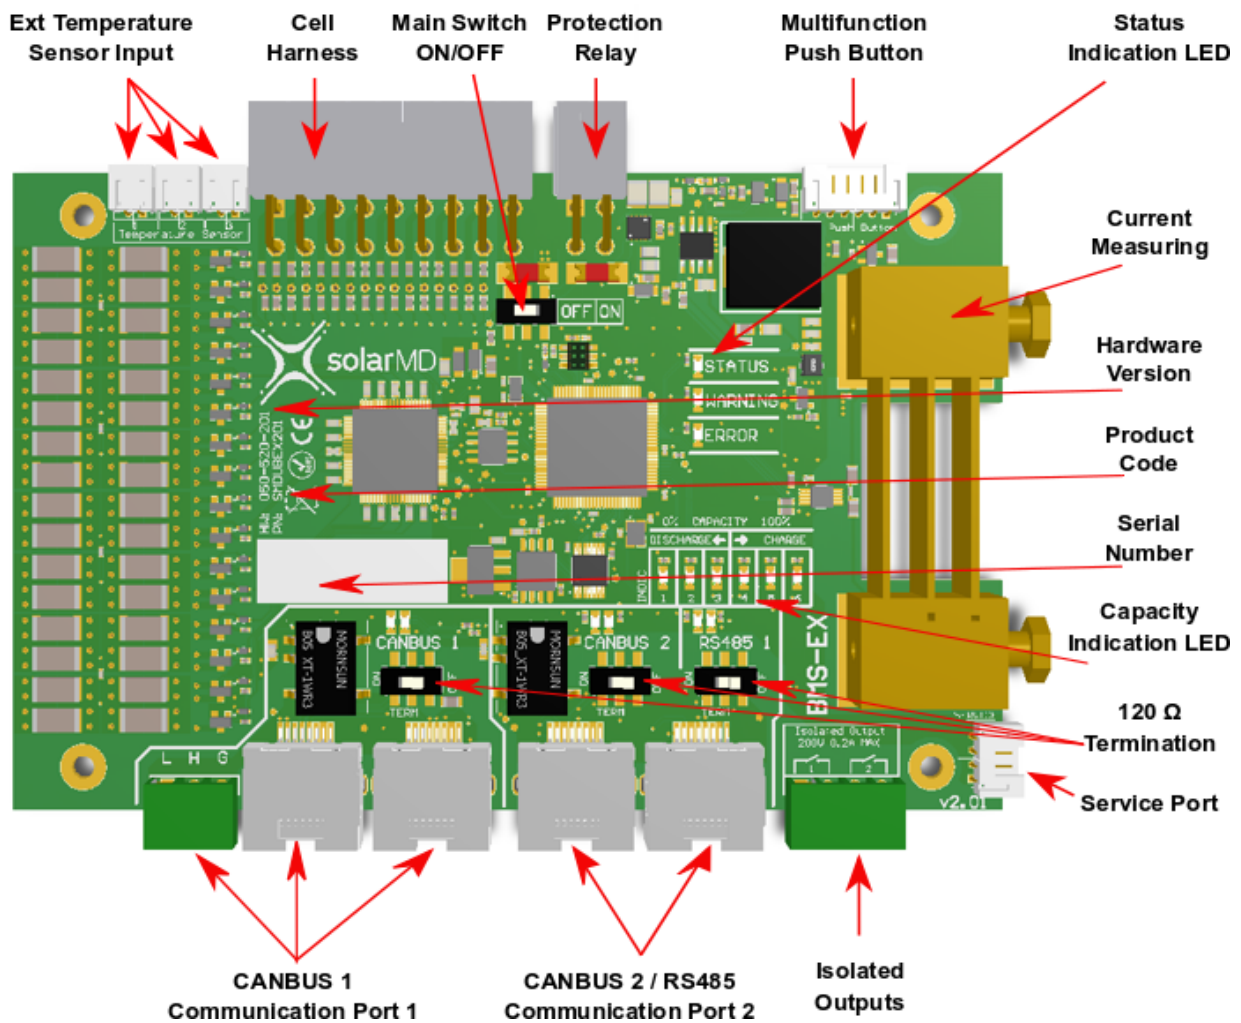

Figure 4 BMS board component locations
Step 1. Before connecting anything be sure that the battery ON/OFF switch is at OFF position. (figure 4)
Step 3. Turn the BMS board ON/OFF switch to the ON position (figure 4).
Step 4. Connect Multipurpose button if not connected to the BMS board connector (figure 4).